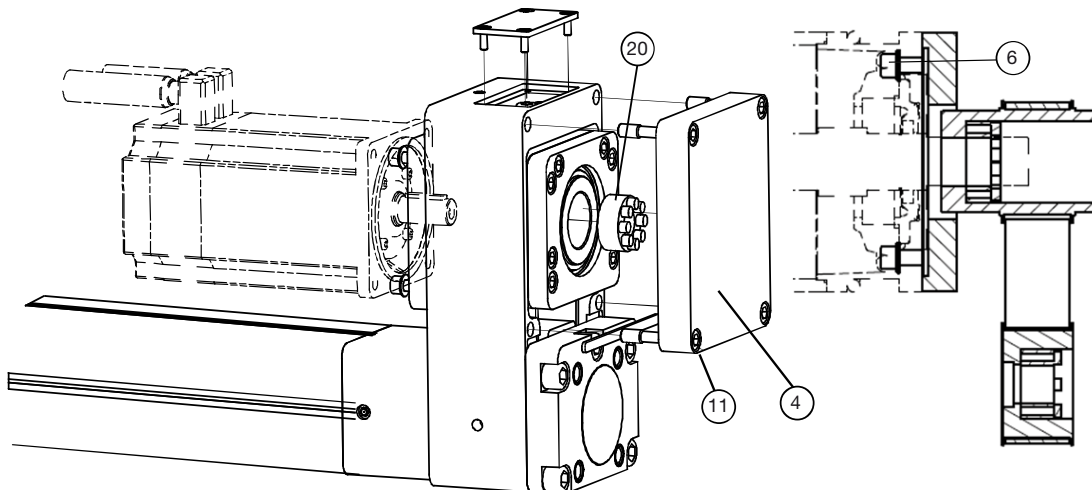
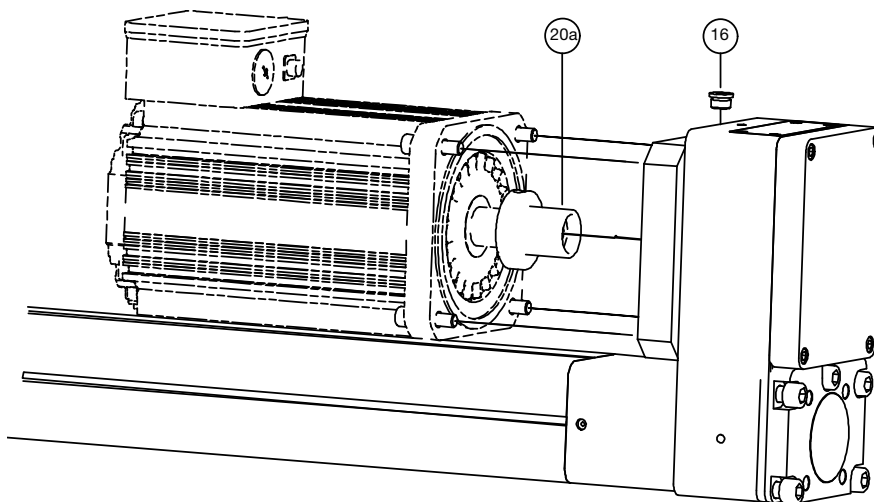

Figure 26: ETH1xx: Motor/ gear assembly parallel
Figure 27: ETH1xx: Motor/ gear assembly parallel with K1M option
- ◆ Dismantle lid (please refer to Figure 26 Pos.4) and screws (please refer to Figure 26 Pos.11).
- ◆ Loosen all tensioning screws of the clamping bushing (see Figure 26) approx. 3 mm.
with K1M drive option: loosen tensioning element (please refer to Figure 27Pos.20a) via flange sided mounting hole. For this, first loosen the lock screw (please refer to Figure 27 16) and then the adjusting screw of the tensioning element.
- ◆ Loosen motor fixing screws (please refer to Figure 26 Pos.6).
- ◆ Remove clamping unit (please refer to Figure 26 Pos.20a & Figure 27 Pos 20a).
- ◆ Loosen all tensioning screws of the clamping bushing (see Figure 26 Pos. 20) (approx. 3mm) and remove them from the hollow shaft.
With K1M drive option: loosen tensioning element (please refer to Figure 27 Pos.20a) via flange sided mounting hole, do not remove tension unit. For this, first loosen the lock screw (please refer to Figure 27 Pos. 16) and then the adjusting screw of the tensioning element.
with K1M drive option: insert tensioning element ((please refer to Figure 27 Pos.20) in the hollow shaft on the motor side and push up to the exterior stop. Adjust tensioning element so that the adjusting screw can be tightened via flange sided mounting holes.
- ◆ Insert tension bushing (please refer to Figure 26 Pos.20) into hollow shaft and slide it up to the inner stop (not with K1M drive option).
- ◆ Afterwards tighten tensioning screws of the clamping bushing (please refer to Figure 26 Pos.20, please refer to Figure 27 Pos.20a) crosswise step by step (in three turns with 1/3, 2/3 and full tightening torque), until the screw tightening torque (please refer to Table 2) is reached.
- ◆ Mount lid (please refer to Figure 26 Pos.4) and screws (please refer to Figure 26 Pos.11).